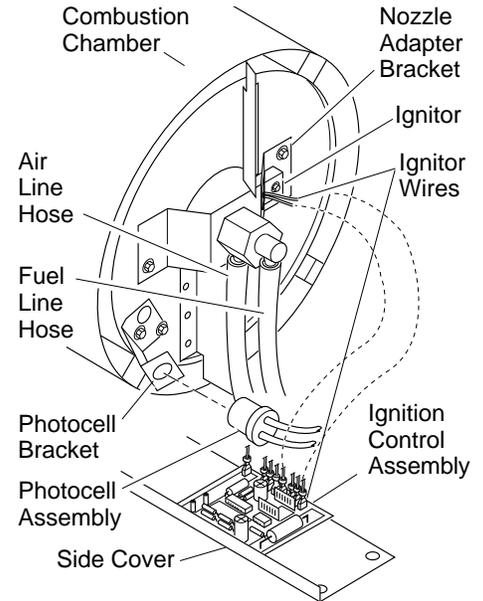

Figure 10 - Disconnecting Ignitor Wires from Ignition Control Assembly
4. Disconnect ignitor wires (yellow) from ignition control assembly (see Figure 10). Pull the ignitor wires up through the hole in the lower shell.
5. Disconnect fuel line hose and air line hose. Remove photocell from photocell bracket (see Figure 10).
9. Carefully guide ignitor into opening in nozzle adapter bracket. Do not strike ignitor element. Attach ignitor to nozzle adapter bracket with screw using a 1/4" nut driver (see Figure 10). Torque 8 to 15 in. lbs. Do not over torque.